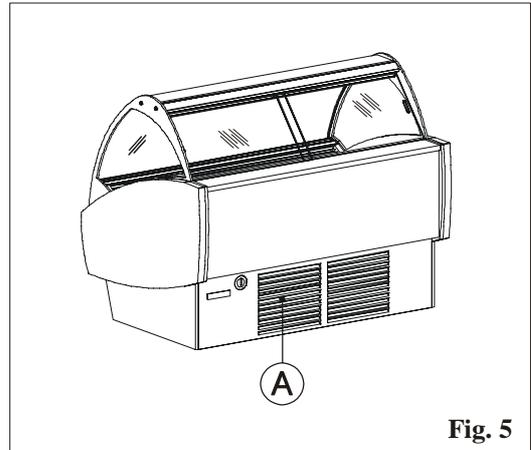

Fig. 5
- The grills for the passage of the cooling air for the condenser are not obstructed (fig. 5 pos. A);